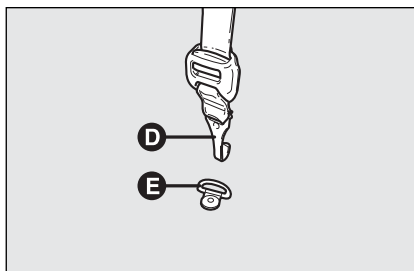

fig. 18
- ☐ for seats positioned facing the running direction, hook the upper belt **D**-**fig. 18** (in the upper seat pocket) to the ring **E** in the boot;